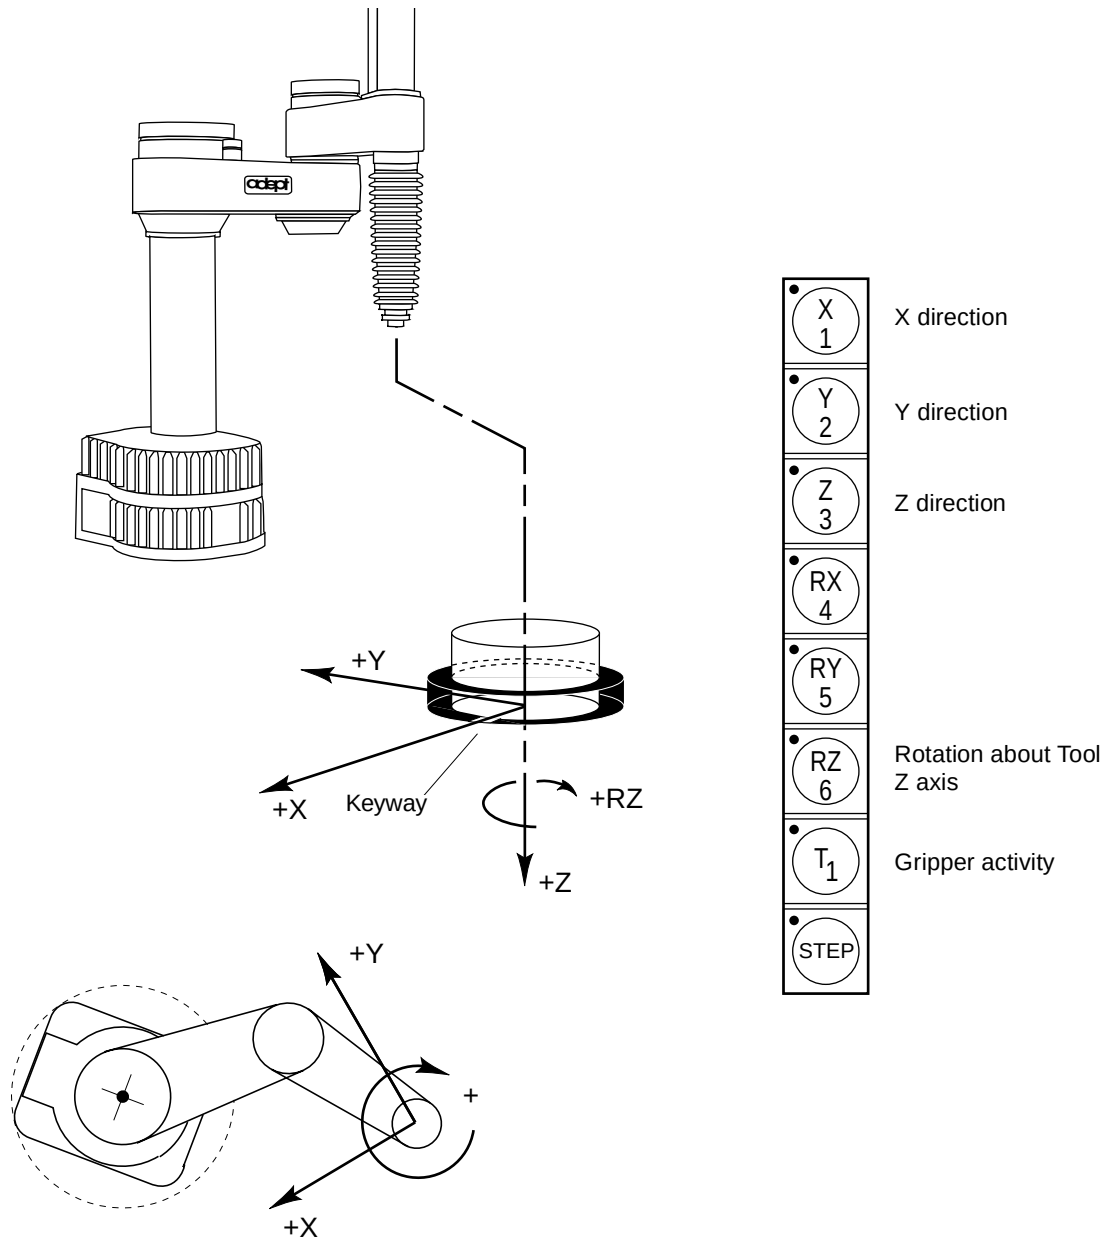
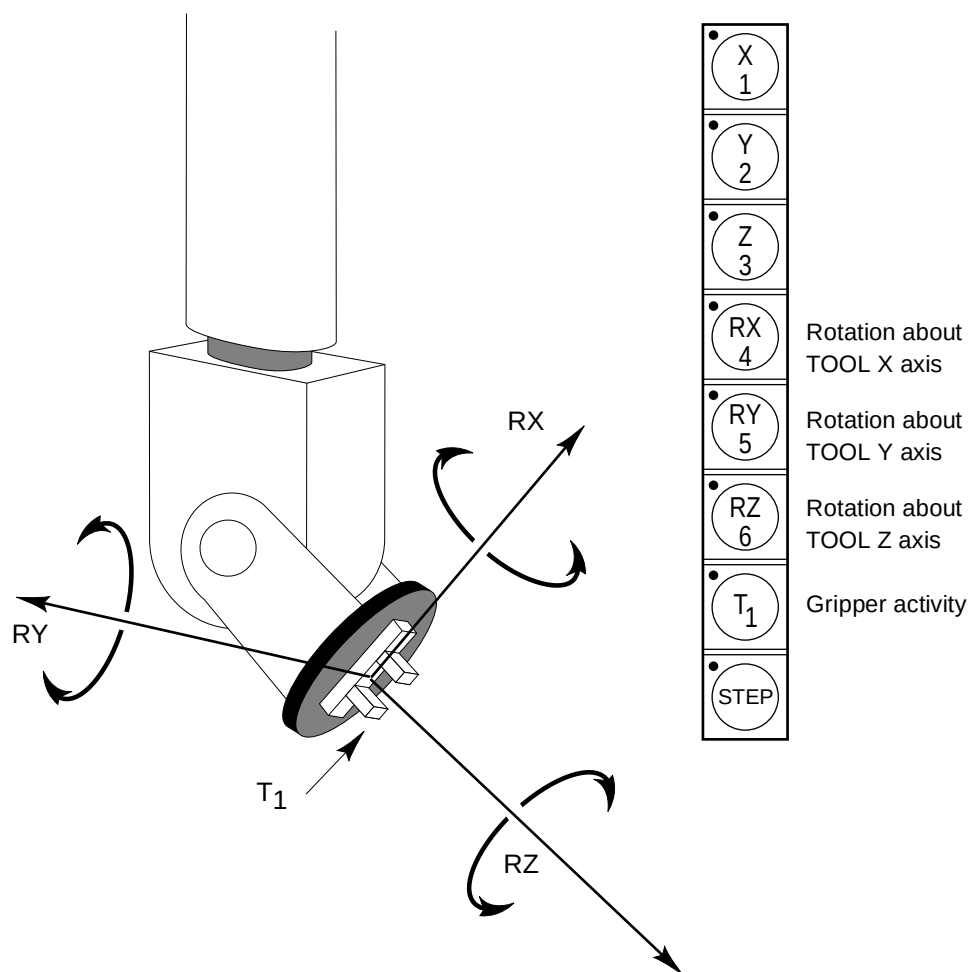

Figure 9-14. TOOL State (Four-Axis SCARA)
Figure 9-15. TOOL State (Six-Axis Robot)
In a four-axis robot, positive rotation of the gripper (RZ) is clockwise as viewed from above. Figure 9-14 shows the tool coordinate system for a four-axis SCARA robot.
Figure 9-15 shows the tool coordinate system on a six-axis robot.
**NOTE:** Figure 9-14 and Figure 9-15 are drawn with the assumption that the TOOL transformation is set to NULL (all values are 0). If a TOOL transformation is in effect, the tool coordinate system will be offset and rotated by the value of the TOOL transformation. Any motion in tool state will now be relative to the offset coordinate system, and not the center of the tool flange. See the *V+ Language Reference Guide* for details on TOOL transformations.